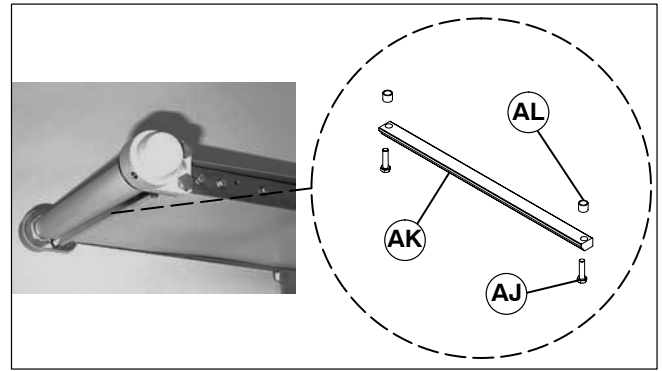

Figure 17
1. If installed, remove and retain two M5 hex head screws (AJ of Figure 17), bottom wiper (AK) and two sleeves (AL).
- If removed, install sleeves (AL of Figure 17), bottom wiper(s) (AK) and M5 hex head screws (AJ). Tighten screws to 33 in-lb (3.7 Nm).